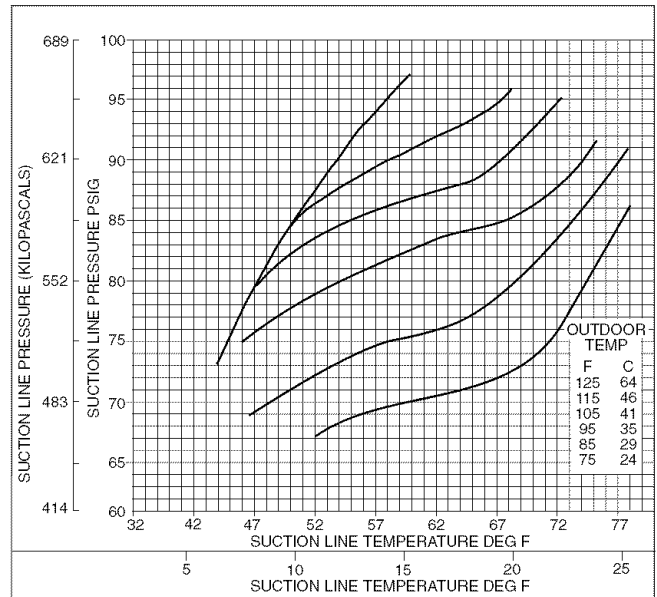

Fig. 48 — Cooling Charting Chart, 50HJQ009
3. Adjust fan height as shown in Fig. 48.